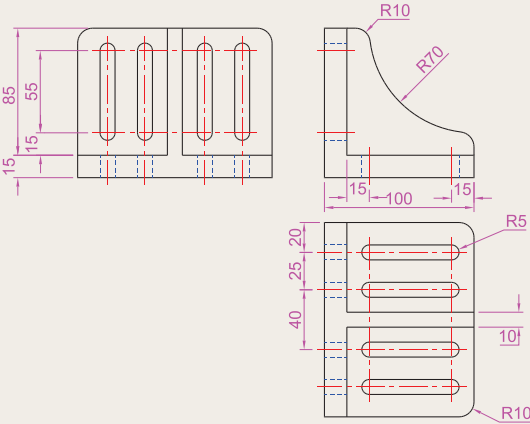

Fig. 7.29 Exercises 6 and 7 – an orthographic projection of the angle plate
4. Call **Ellipse** tool and set to isocircle and add the isocircle of radius 20 centred in its correct position in the outline of the top (Fig. 7.29).
- 6. Construct the orthographic projection given in Fig. 7.29.